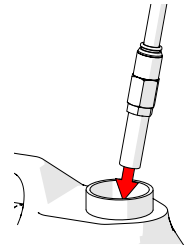

Fig. 2 - Inlet filter in couplant
- Place the inlet filter (Fig. 1-5) into a reservoir of non-toxic, non-flammable couplant (Fig. 2). Ensure the opposite end of the inlet hose is connected to the motorized pump's inlet connection (Fig. 1-3).